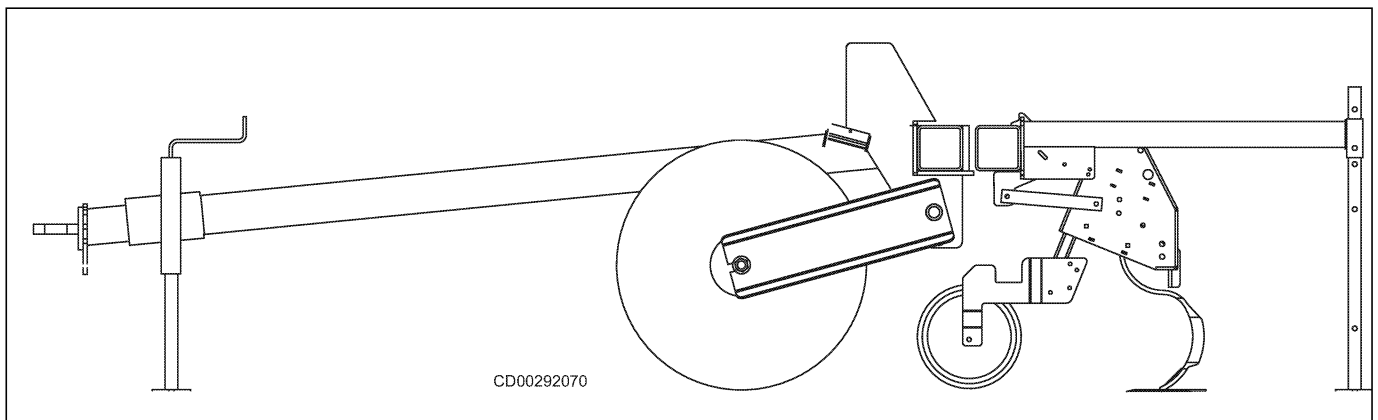

Figure 4 Rear parking stand lowered and pinned
14. Raise all parking stands into upper position. Install pin through parking stand and bracket as shown in Figure 4.
4. Lower rear parking stands. Pin in position so the tool bar will be level with the hitch stored at drawbar height. See Figure 4.